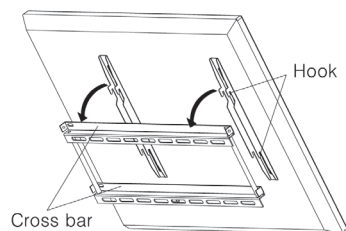
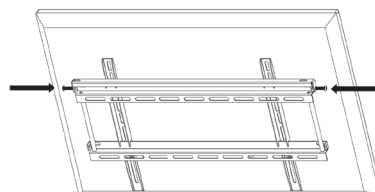

fig. 4
fig. 5
CAUTION: Some televisions are heavy, please lift and place carefully. We will not be held responsible for any accidental damage. Lift the display unit to the cross bar of the wall plate (A), and then lower the unit into place until the hooks are fully seated in the cross bar of the wall plate assembly, as fig. 4. Reinstall the lock plate to the wall plate with a screwdriver, see fig. 5, and lock the locking gate to prevent the monitor brackets (B) falling off the wall plate.